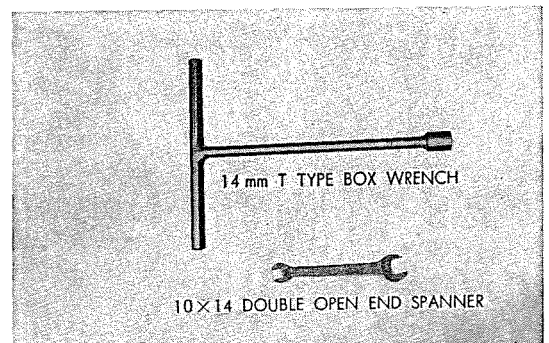

Fig. 4.2 Tools required for disassembly and assembly
1. Tools required for disassembly and assembly of the handlebar. (Refer to Fig. 4.2)